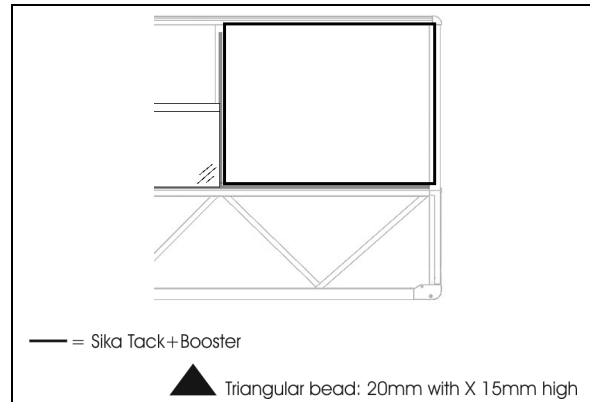
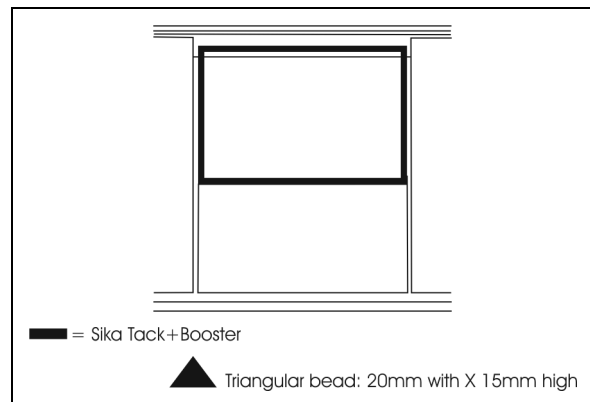
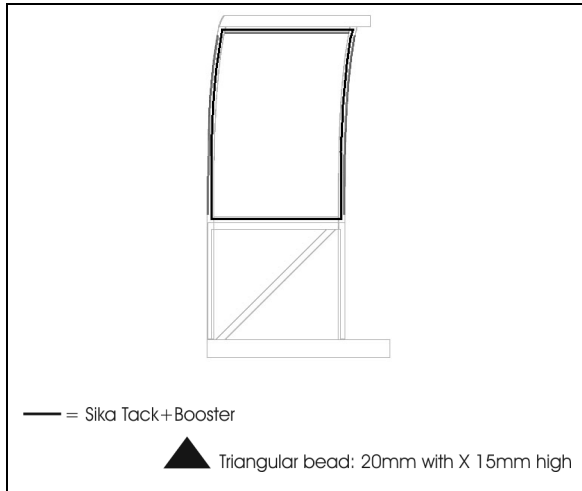

FIGURE 56 : FACE FIXED WINDOW INSTALLATION – SIKA TACK+BOOSTER
FIGURE 57 : FACE FIXED HALF-WINDOW INSTALLATION – SIKA TACK+BOOSTER
FIGURE 58 : SIDE FIXED WINDOW – SIKA TACK + BOOSTER
6. Apply Sika Tack+Booster as per FIGURE 56, FIGURE 57 or FIGURE 58 (triangular bead: 20mm width X 15mm high).